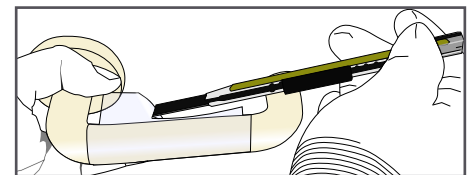

Figure 18
- › Finish with a small overlap (approx. 2 mm / 0.08 in.) with the other end of the film at the rear side of the handle. Cut the excess film. (FIG. 18)